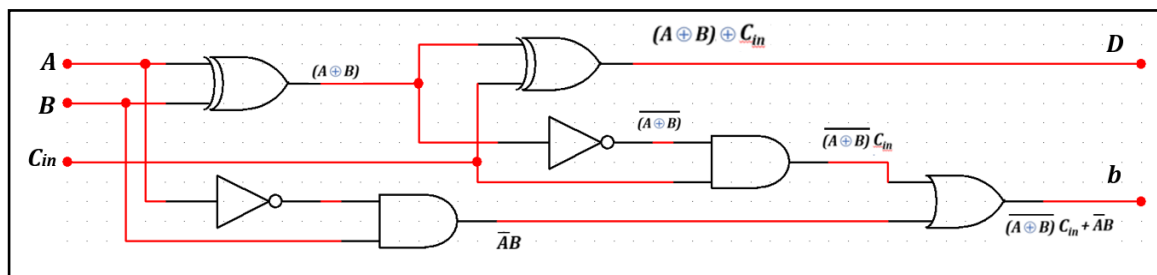

Fig. 5.2: Logic gate connection diagram for full subtractor.
FULL SUBTRACTOR: It is a combinational circuit which is used to perform subtraction of three bits. It has three input bits, A (minuend) and B (subtrahend) and C (subtrahend) & two outputs bits, D (difference) and b (borrow). (See Fig. 5.2)
- Repeat above steps to realise full subtractor but make connections as per Fig. 5.2.